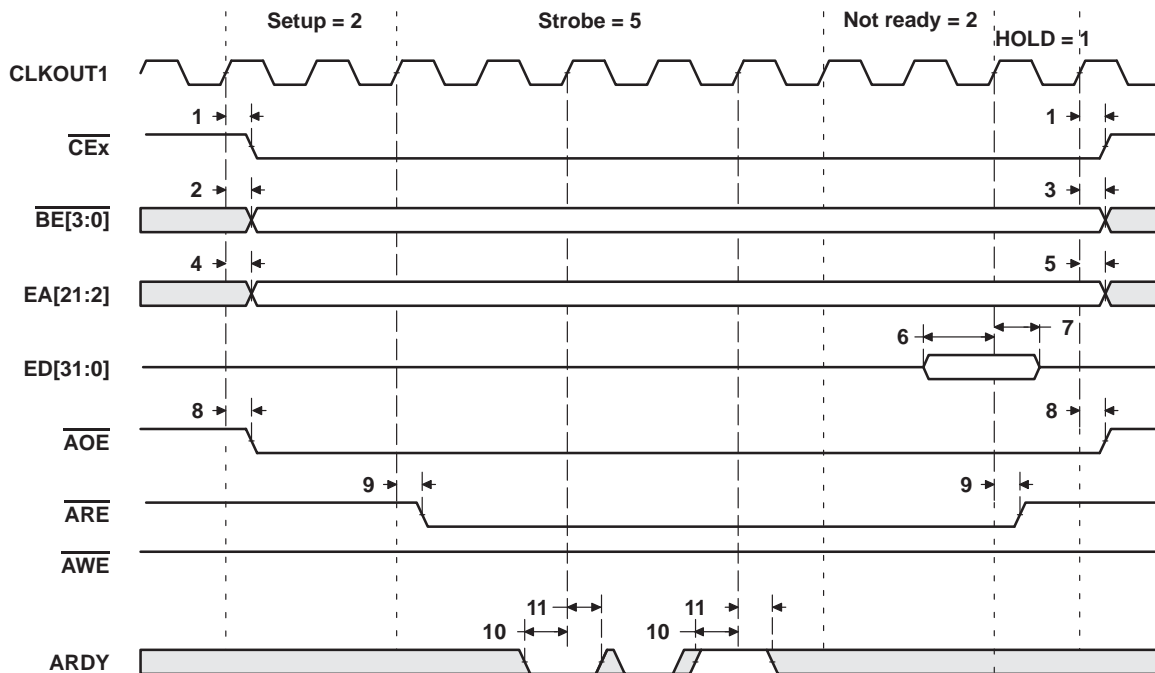
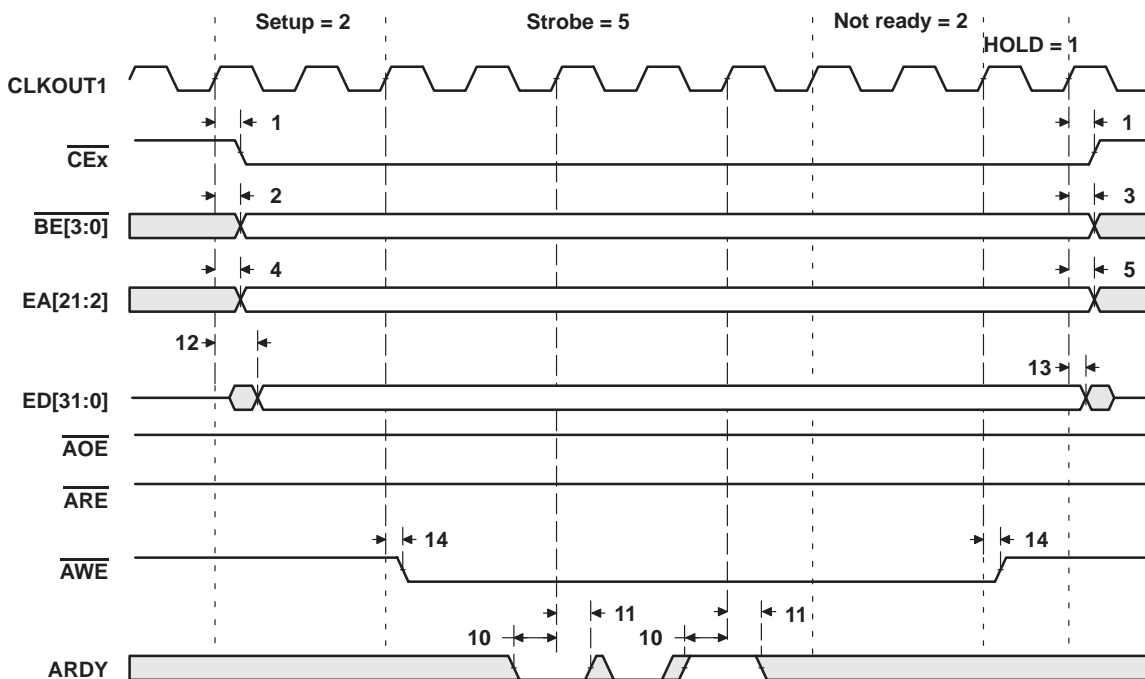

Figure 12. Asynchronous Memory Read Timing
Figure 13. Asynchronous Memory Write Timing
**timing requirements for asynchronous memory cycles† (see Figure 12 and Figure 13)**
**switching characteristics for asynchronous memory cycles‡ (see Figure 12 and Figure 13)**